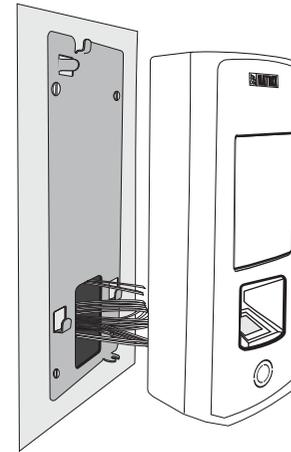

Figure 7
- After you have completed all the electrical connections, lead all the cables through the rectangular hole into the electrical box recessed in the wall (Figure 7).